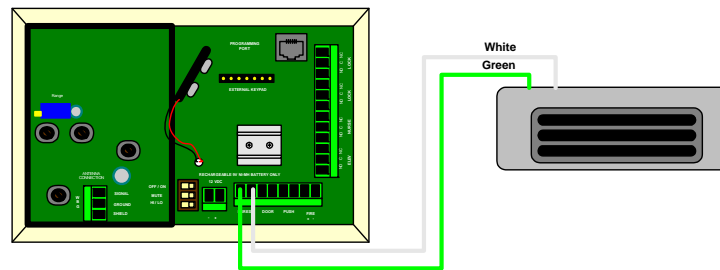

Figure 8-14 Advantage 1000DE to a Single Delayed Egress Switch Connections.
**Connecting single Delayed Egress switch to the Advantage 1000DE Panel:** Refer to the manufacturer's instructions provided with the lock for proper mounting of the lock. Refer to Figure 8-14 for connection to the Advantage 1000DE Exit Panel. Use SCP Part #440 (20AWG, four-conductor) cable for the connection. The green and white conductors are used for connection of the delayed egress switch.. When using the Dortronic lock adjustment may need to be made to the thumb wheel on the lock armature for proper delayed egress operation.